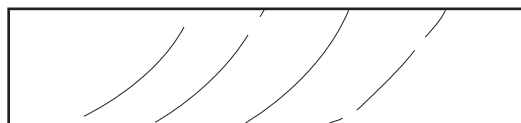

Fig. 4
- 5 Fig. 4 shows the end of a length of wood.
Complete Fig. 4 to show a chamfered edge and a bevelled edge.